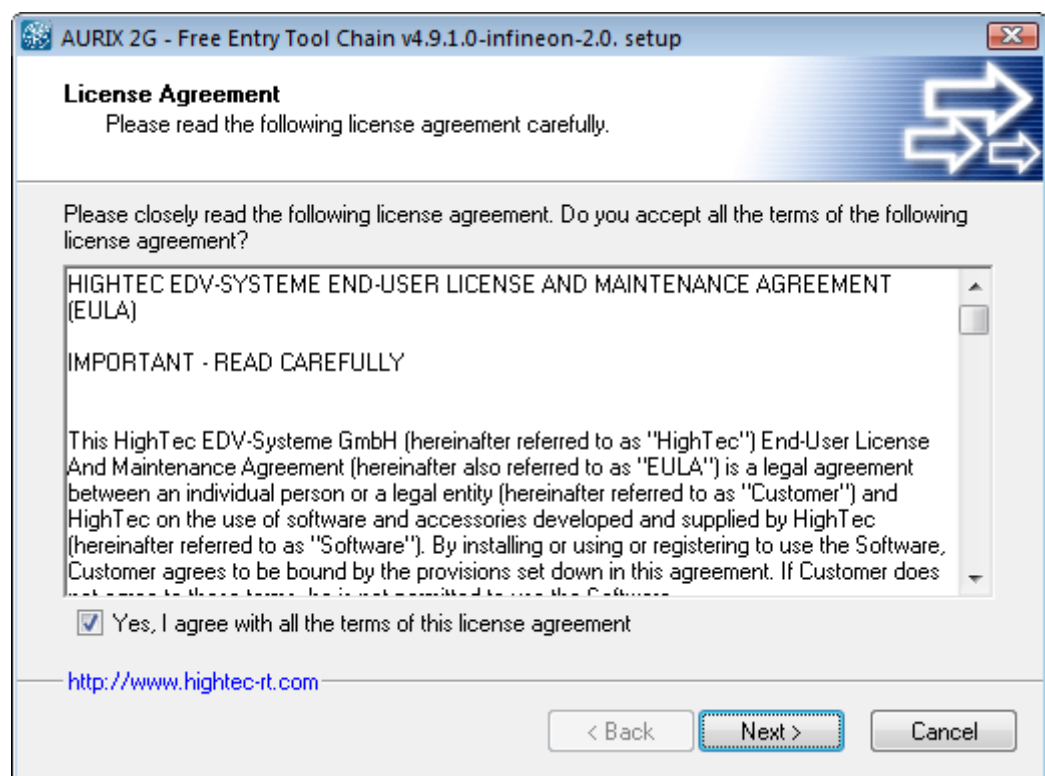

Figure 2 License Agreement dialog
2. Select **Next** button. The License Agreement dialog appears. Please read carefully and agree or cancel the installation with Cancel button (Figure 2)